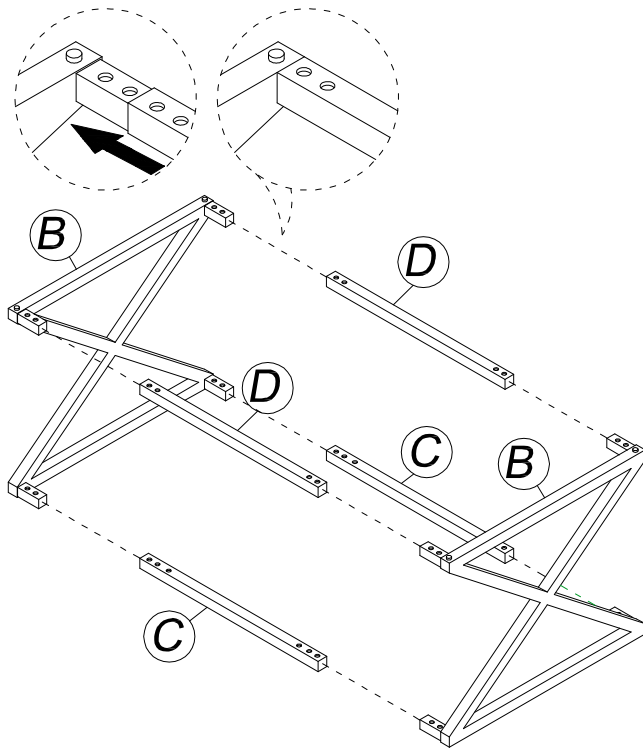

Figure 1
Use Short Bolts (2), Spring Washers (4), and Flat Washers (5) to attach assembled base from Figure 1.